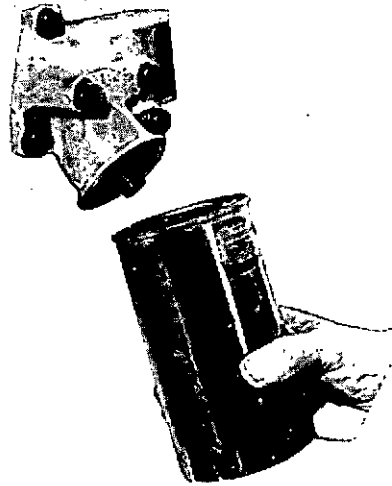

Fig. 19
- (a) Unscrew filter canister from filter head (see Fig. 19).